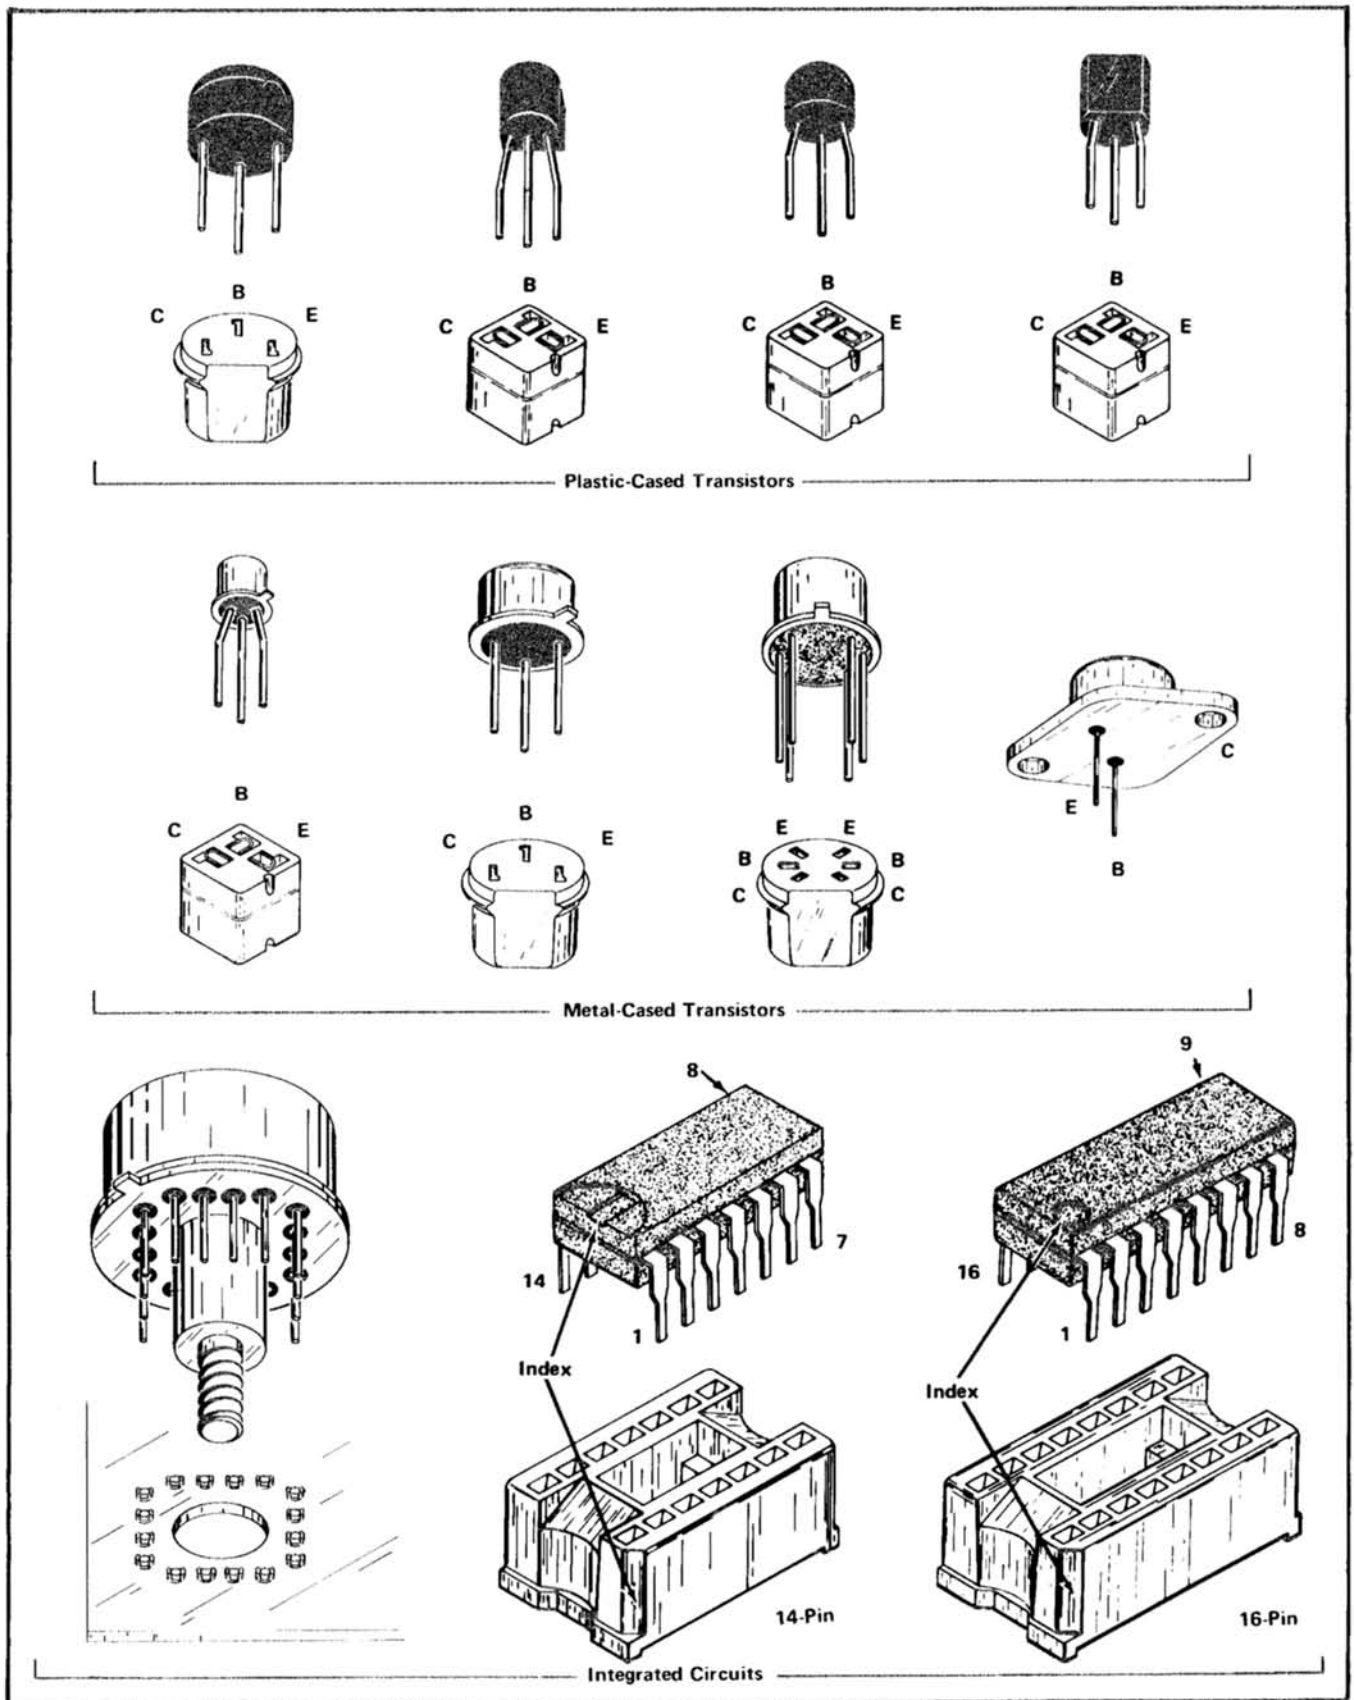

Fig. 4-5. Electrode configuration for semiconductors used in this instrument.
**Semiconductor Lead Configuration.** Fig. 4-5 shows the lead configuration for the semiconductors used in this instrument. This view is as seen from the bottom of the semiconductors.